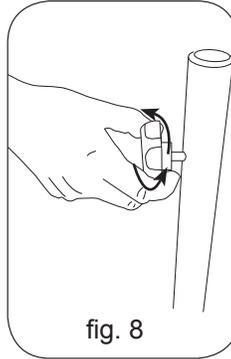

fig. 8
10. If your stool has a body support, loosen, but do not remove the hand knob on the swingarm (fig. 8).